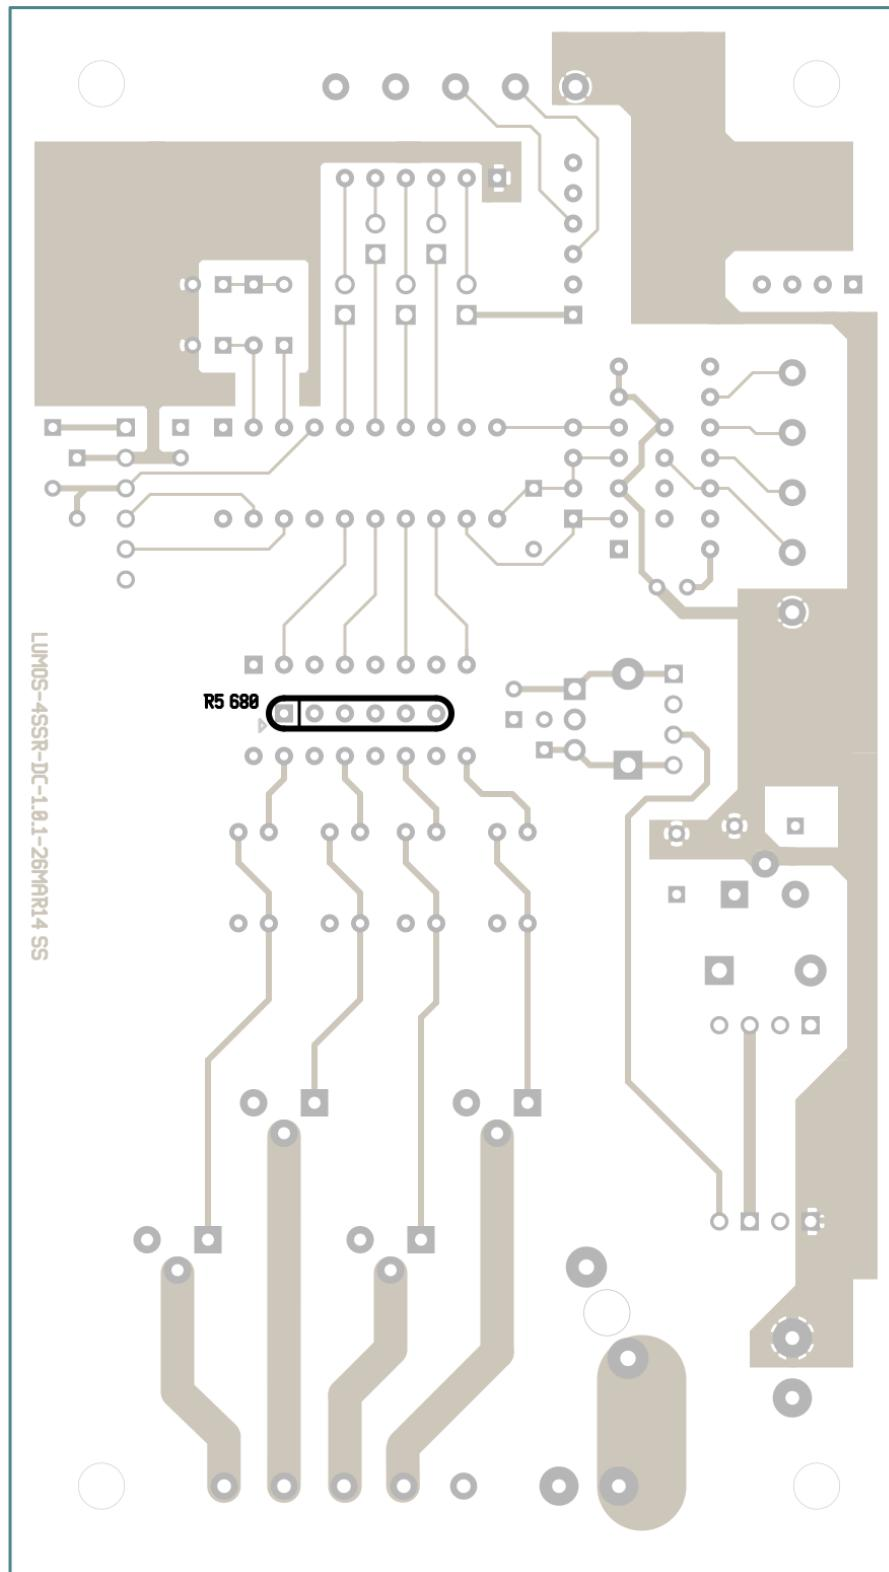
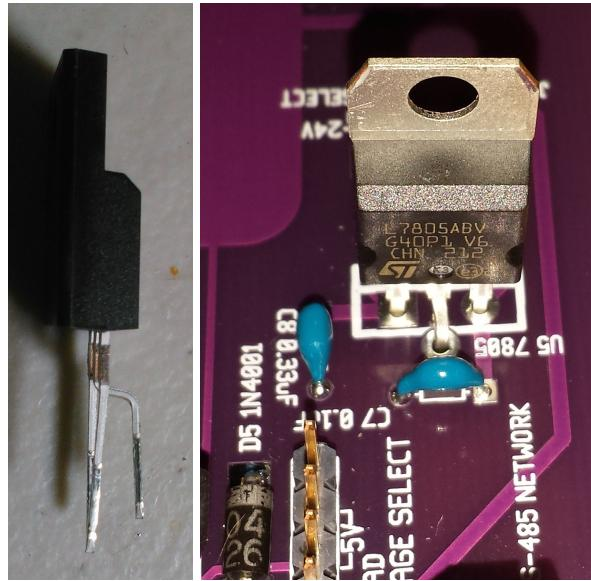

Figure 5.2: Lumos Board Parts Placement (Reverse Side)
Figure 5.4: Bending the Pins of the MOSFETs and 7805
19. Install a $680\ \Omega$ resistor network *on the bottom (solder) side* of the board at R5 (the row of six holes *inside* U3). **Note the correct position of R5.** The square hole on the PCB marks where pin 1 of R5 should be inserted. Pin 1 is marked with a dot on R5 itself. See Figure 5.2.
26. Install (3) 4-position jumper block headers at J3–J5. Solder.
29. Install (2) 5-position terminal blocks at J1 and J8.
30. Install (2) 2-position terminal blocks at J6 and J7.
31. Using ESD protection, lay out (4) MOSFETs on your workbench.
32. Prepare each MOSFET by bending the middle lead 90° up toward the front of the transistor body, then move your pliers down the lead another 0.1" and bend it 90° back again, parallel to the other pins again. It should now look like the photo in Figure 5.4 and should fit easily into the holes at Q0 on the PCB.